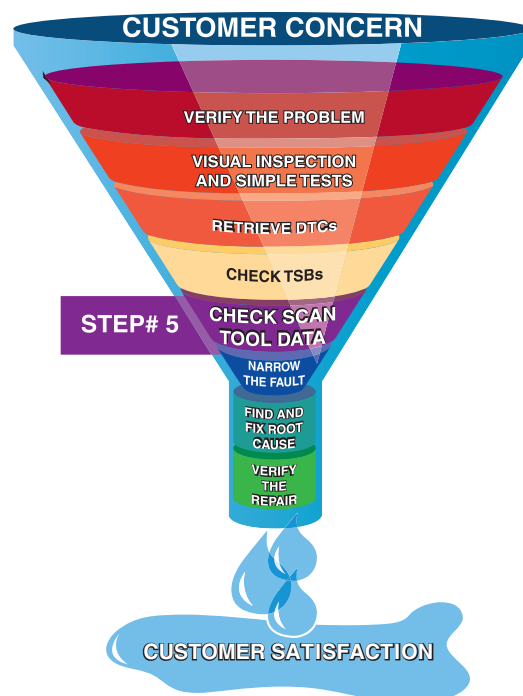

FIGURE 1-10 Looking carefully at the scan tool data is very helpful in locating the source of a problem.
STEP 5 LOOK CAREFULLY AT SCAN TOOL DATA Vehicle manufacturers have been giving the technician more and more data on a scan tool connected to the **data link connector (DLC)**. ● **SEE FIGURE 1-10.** Beginning technicians are often observed scrolling through scan data without a real clue about what they are looking for. When asked, they usually reply that they are looking for something unusual, as if the screen will flash a big message “LOOK HERE—THIS IS NOT CORRECT.” That statement does not appear on scan tool displays. The best way to look at scan data is in a definite sequence and with specific, selected bits of data that can tell the most about the operation of the engine, such as the following: